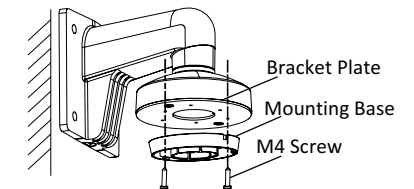

Figure 2-13 Install Mounting Base
3. Install the mounting base onto the bracket plate with 2 M4 screws, as shown in Figure 2-13.